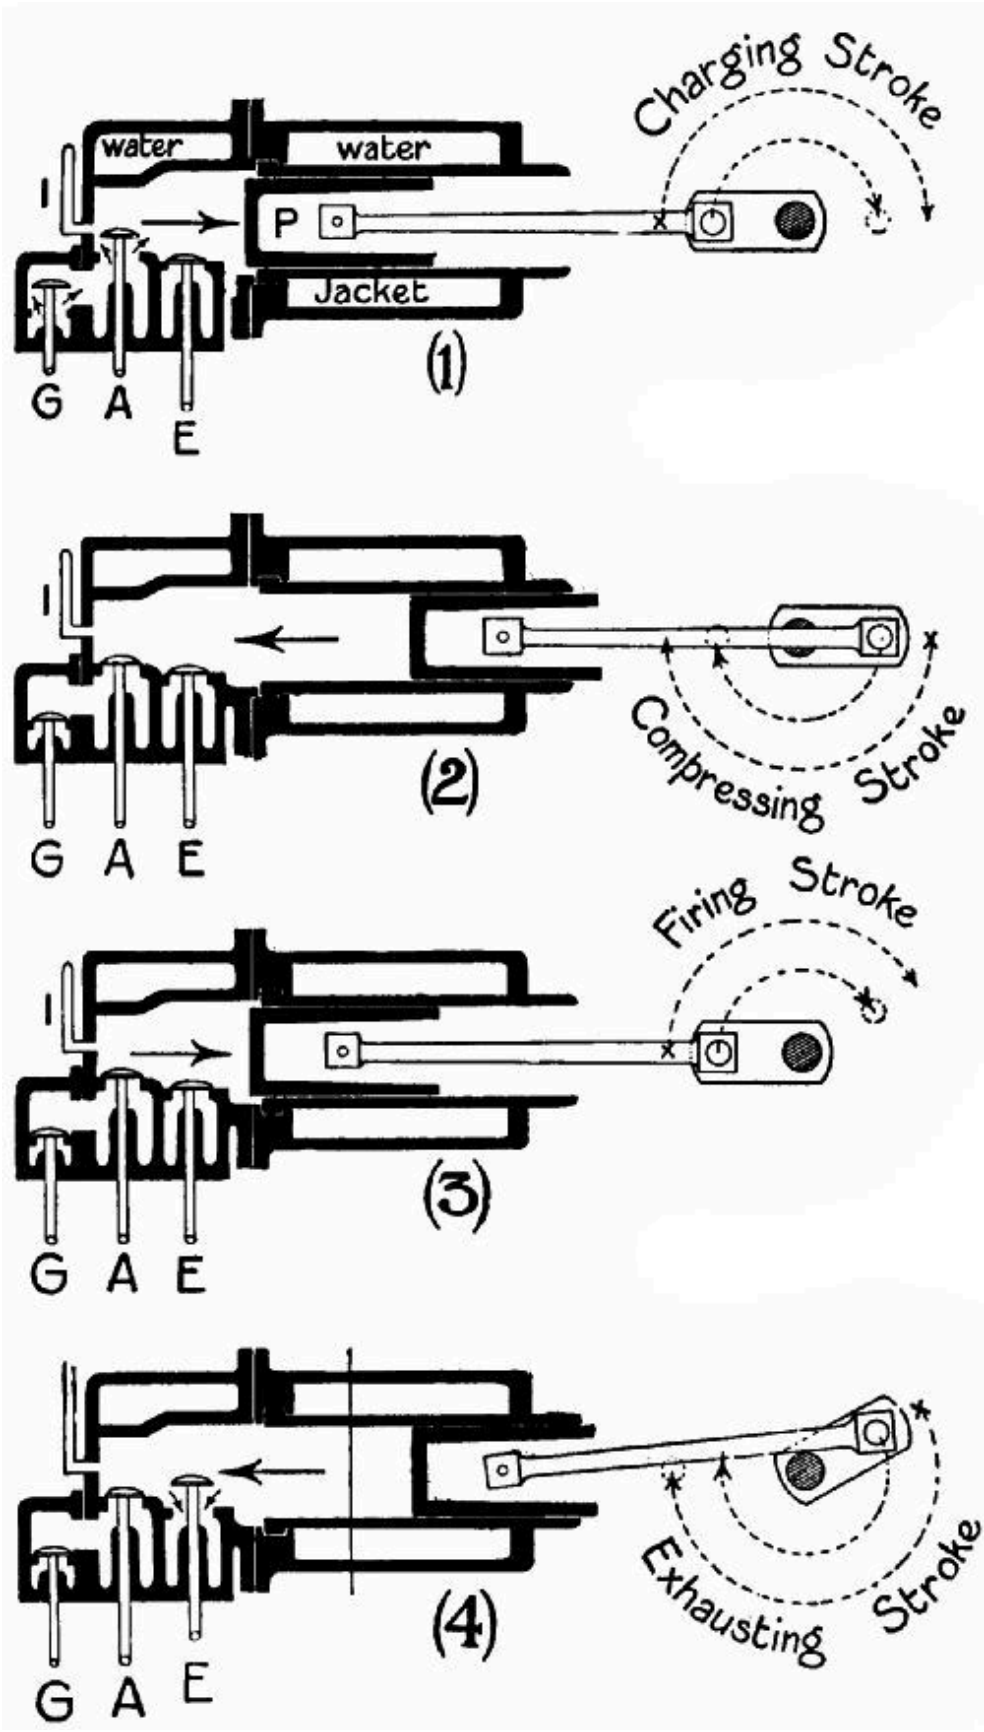

FIG. 39.—Showing the four strokes that the piston of a gas-engine makes during one "cycle."
The gas-engine, the oil-engine, and the motor-car engine are similar in general principles. The cylinder has, instead of a slide-valve, two, or sometimes three, "mushroom" valves, which may be described as small and thick round plates, with bevelled edges, mounted on the ends of short rods, called stems. These valves open into the cylinder, upwards, downwards, or horizontally, as the case may be; being pushed in by cams projecting from a shaft rotated by the engine. For the present we will confine our attention to the series of operations which causes the engine to work. This series is called the Beau de Rochas, or Otto, cycle, and includes four movements of the piston. Reference to Fig. 39 will show exactly what happens in a gas-engine—(1) The piston moves from left to right, and just as the movement commences valves G (gas) and A (air) open to admit the explosive mixture. By the time that P has reached the end of its travel these valves have closed again. (2) The piston returns to the left, compressing the mixture, which has no way of escape open to it. At the end of the stroke the charge is ignited by an incandescent tube I (in motor car and some stationary engines by an electric spark), and (3) the piston flies out again on the "explosion" stroke. Before it reaches the limit position, valve E (exhaust) opens, and (4) the piston flies back under the momentum of the fly-wheel, driving out the burnt gases through the still open E. The "cycle" is now complete. There has been suction, compression (including ignition), combustion, and exhaustion. It is evident that a heavy fly-wheel must be attached to the crank shaft, because the energy of one stroke (the explosion) has to serve for the whole cycle; in other words, for two complete revolutions of the crank. A single-cylinder steam-engine develops an impulse every half-turn—that is, four times as often. In order to get a more constant turning effect, motor cars have two, three, four, six, and even eight cylinders. Four-cylinder engines are at present the most popular type for powerful cars.